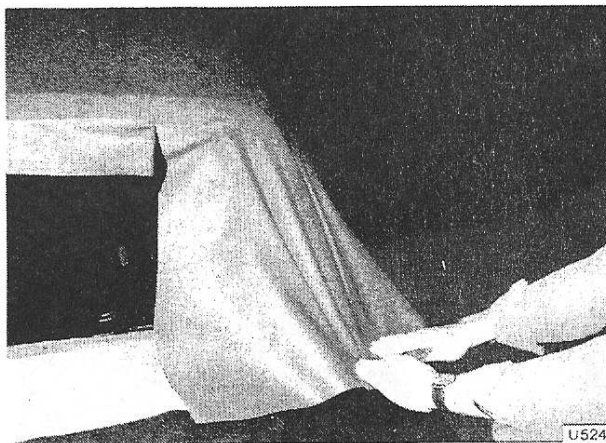

Fig. S110 Stretching the trim over the top of the tonneau
36. Stretch the trim over the top of the tonneau panel, pulling the corner approximately 8 cm. to 10 cm. (3.0 in. to 4.0 in.) inwards i.e. towards the centre of the car (see Fig. S110).